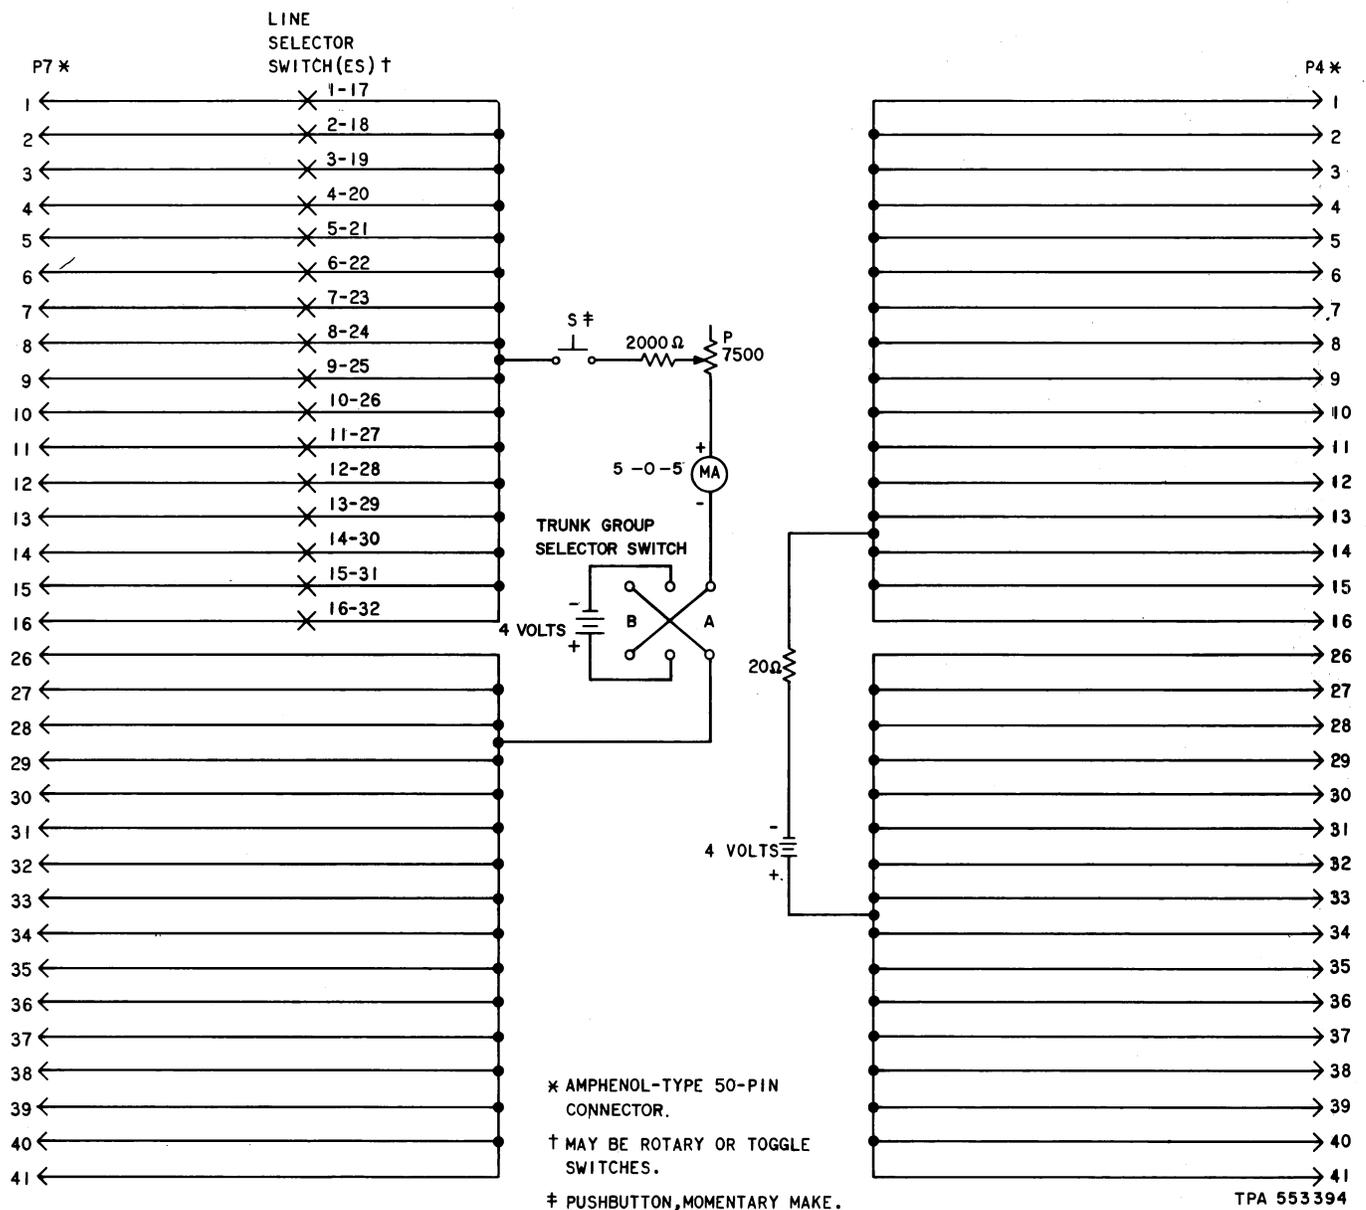

Fig. 12—Optional Concentrator Installation Test Set
test equipment and the second utilizes a test jig (Fig. 12) that may be built from standard parts. When the manual test set is used, about 30 seconds will be required to test each crosspoint. (The total
5.06 Initial installation testing may also be performed by using the apparatus shown in Fig. 12. This test set must be built by telephone